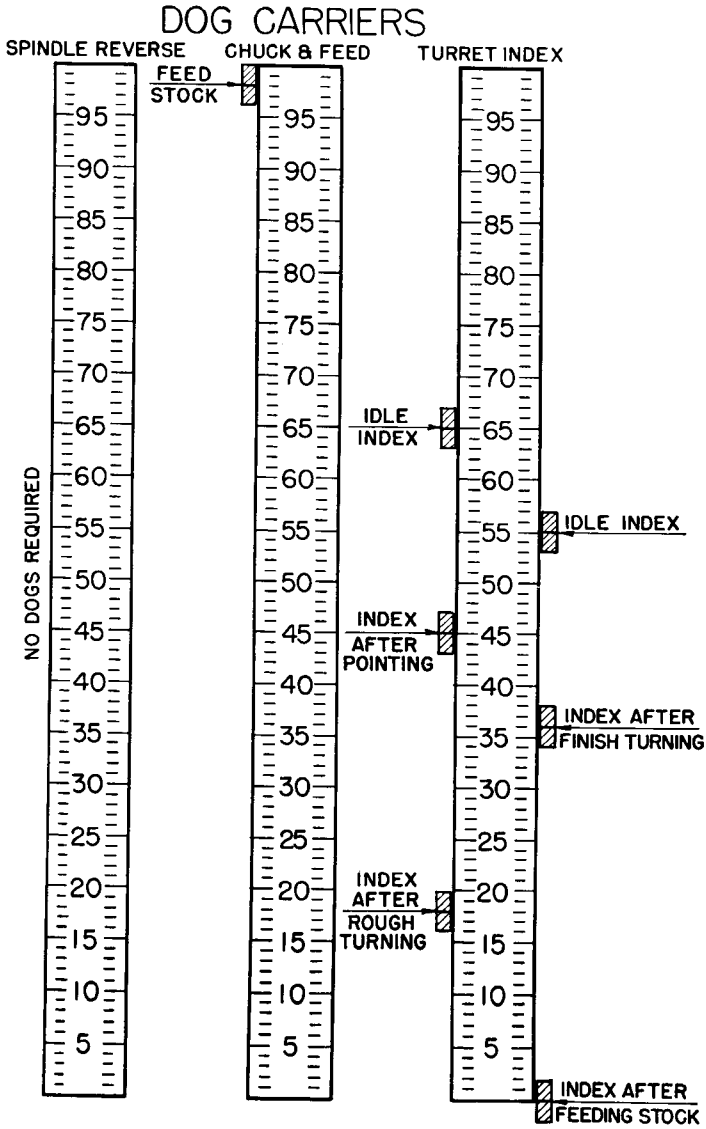

Fig. 2. Dog Settings for Job No. 8
**Set All Trip Dogs.** Fig. 2 shows the approximate trip dog settings. You have had enough experience by now so that by studying the work sheet you can see why each dog has been set in the position shown. Time required for turret index is  $\frac{1}{3}$  second on a No. 0 Machine. On a 30 second job,  $\frac{1}{3}$  second represents a little more than one hundredth of cam surface. As long as the idle index dogs are two hundredths apart, indexing will be satisfactory. Actually, there is ample time during knurling and cutting off, so the idle index dogs have been set ten hundredths apart.